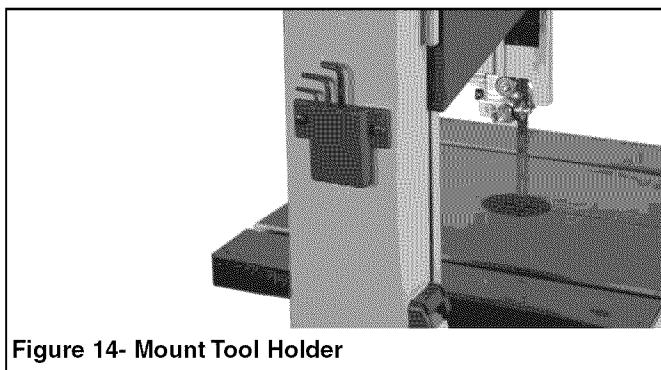

Figure 14 - Mount Tool Holder
- Assemble the tool holder to the column of the band saw with two pan head screws. Locate two pan head screws from the bag of loose parts. Mount the tool holder to the column and install a pan head screw in each hole, and then tighten with Phillips screwdriver (see Figure 14).